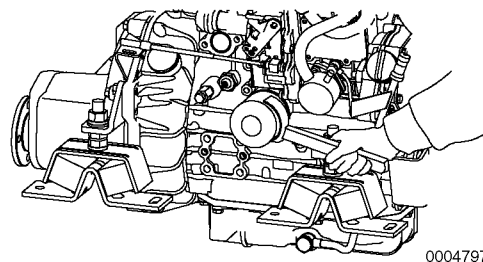

Figure 4-4
2. Turn the engine oil filter (Figure 4-4) counterclockwise with a filter wrench.